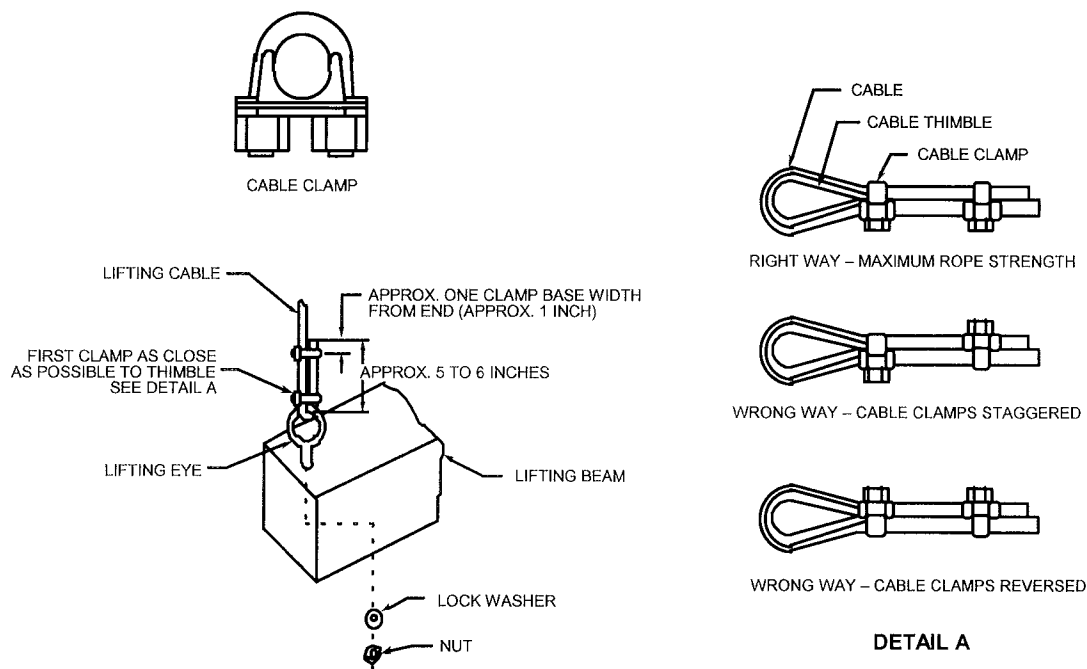

Figure 3-30 Cable/Cable Clamp Installation
1. Install the four rake lift pulleys on the upper I-beam. Two (2) top beam pulley assemblies will be mounted on the left of the I-beam centerline and two (2) assemblies will be on the right. Refer to Figure 3-30 for the orientation of the pulleys and the hole pattern in the top of the upper I-beam.